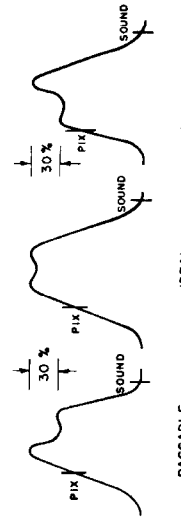

FIGURE 23. OVERALL CURVE
- (10) Adjust C105 until the sound carrier marker is at the top of the curve.
- (11) Change the Skatton selector to the various channels and using the correct setting of the R.F. generator to center it in the channel and the correct marker frequency for the sound carrier, adjust the brass core in L105 so that the sound marker will be in the middle of the curve, FIGURE 23.
- (12) This completes the alignment of the R.F. tuner with the exception of the converter transformer which you have aligned when you aligned the I.F. transformer.